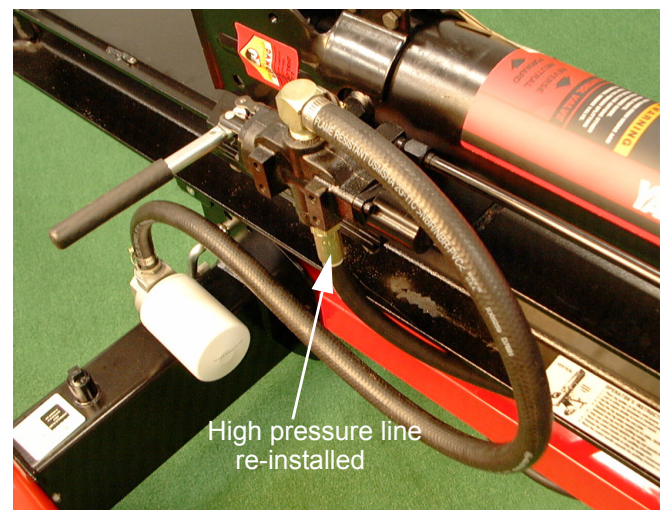

Figure 5
16. Install the high pressure hydraulic hose in the inlet port of the control valve using a 1-1/16" wrench and channel locks. See Figure 5.